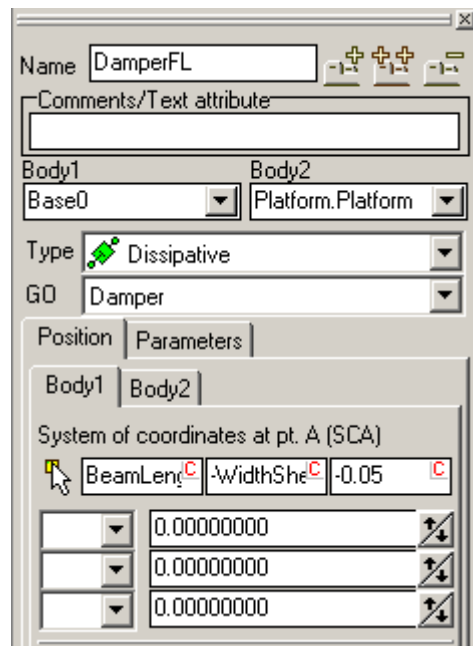

Figure 3.15
2. Rename the new element as **DamperFL** (forward, left), set the element type **Dissipative** and set GO to **Damper** (Fig. 3.15).